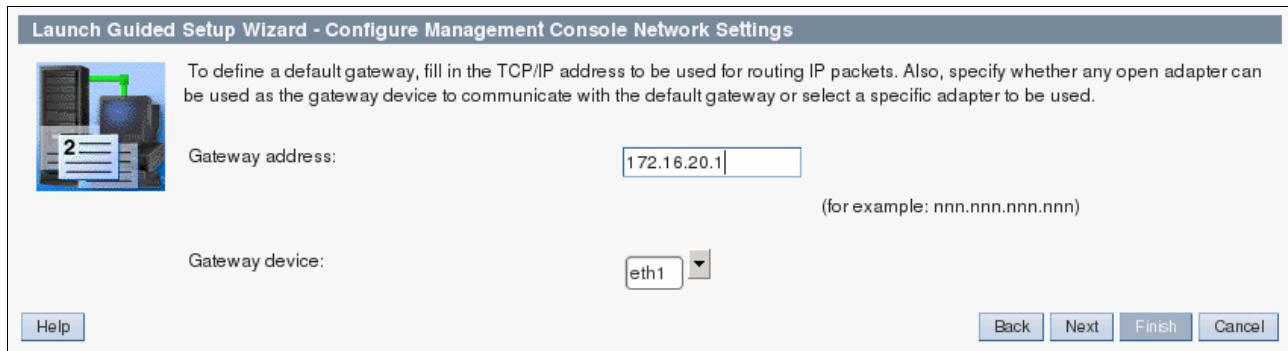

Figure 3-100 HMC default gateway
29. Choose the default gateway, select the appropriate device, and click **Next** (Figure 3-100).